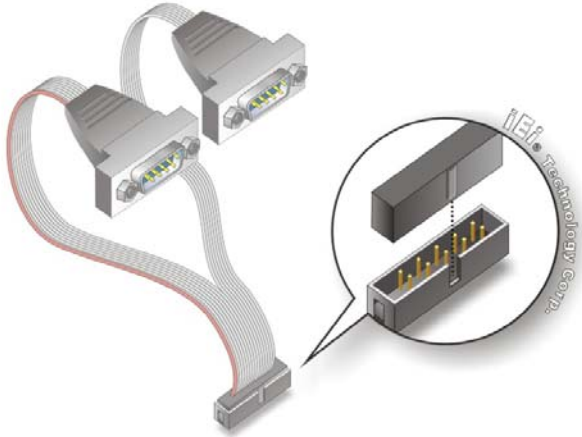

Figure 0-15: Dual Serial Port Connector Cable Connection
Step 3: Insert the cable connectors Once the cable connector is properly aligned with the COM2 serial port connector on the 2807730, connect the cable connector to the onboard connectors. See Figure 0-15.